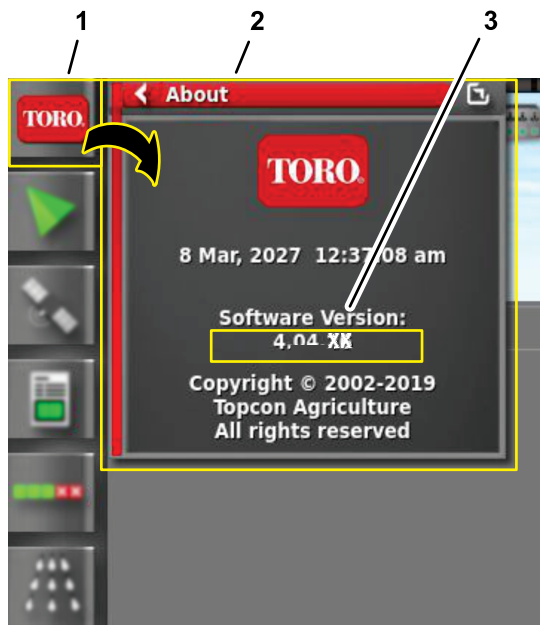

Figure 158
2. Press the ABOUT (Toro) icon at the upper left corner of the control console (Figure 158).